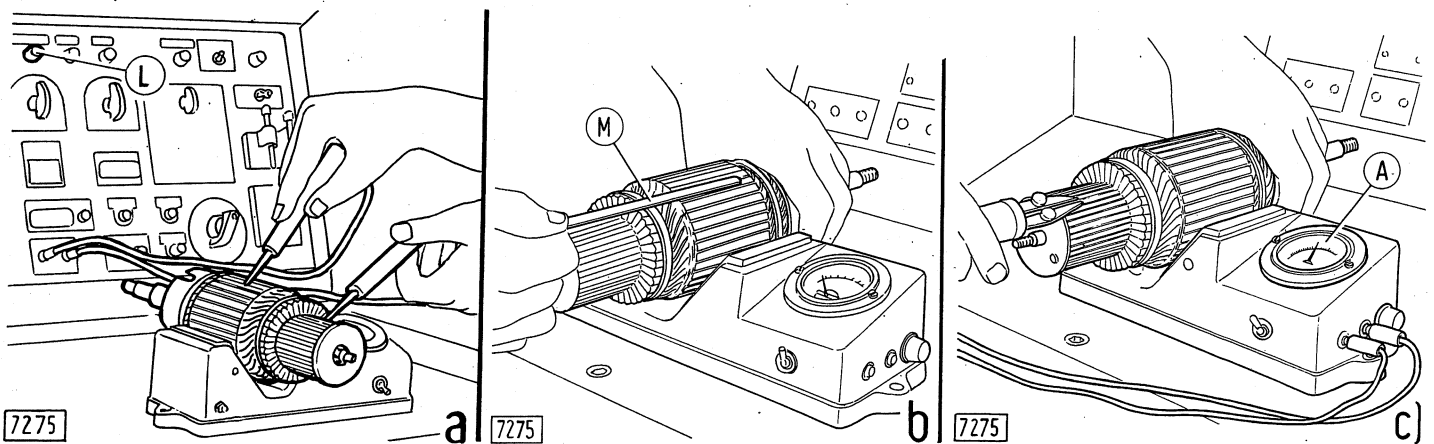

Fig. 15 - Checking ground insulation (a), wiring short-circuit (b) and continuity (c) of an armature winding.
- check that the armature coils and armature are insulated from the armature carcass (a, Fig. 15), that no winding coil or blade of the commutator is short circuited (b) and, finally, that no interruption exists in the electrical continuity of the circuit (c);
- verify the field winding insulation with respect to the carcass and pole shoes (Fig. 15) and check the windings for interruptions. In the event that a new winding is to be fitted, we recommend heating it up first to approximately 50 °C (122 °F) by feeding it with a 12 V current for about 1 minute in order to increase its flexibility and favour proper bedding under the poles.